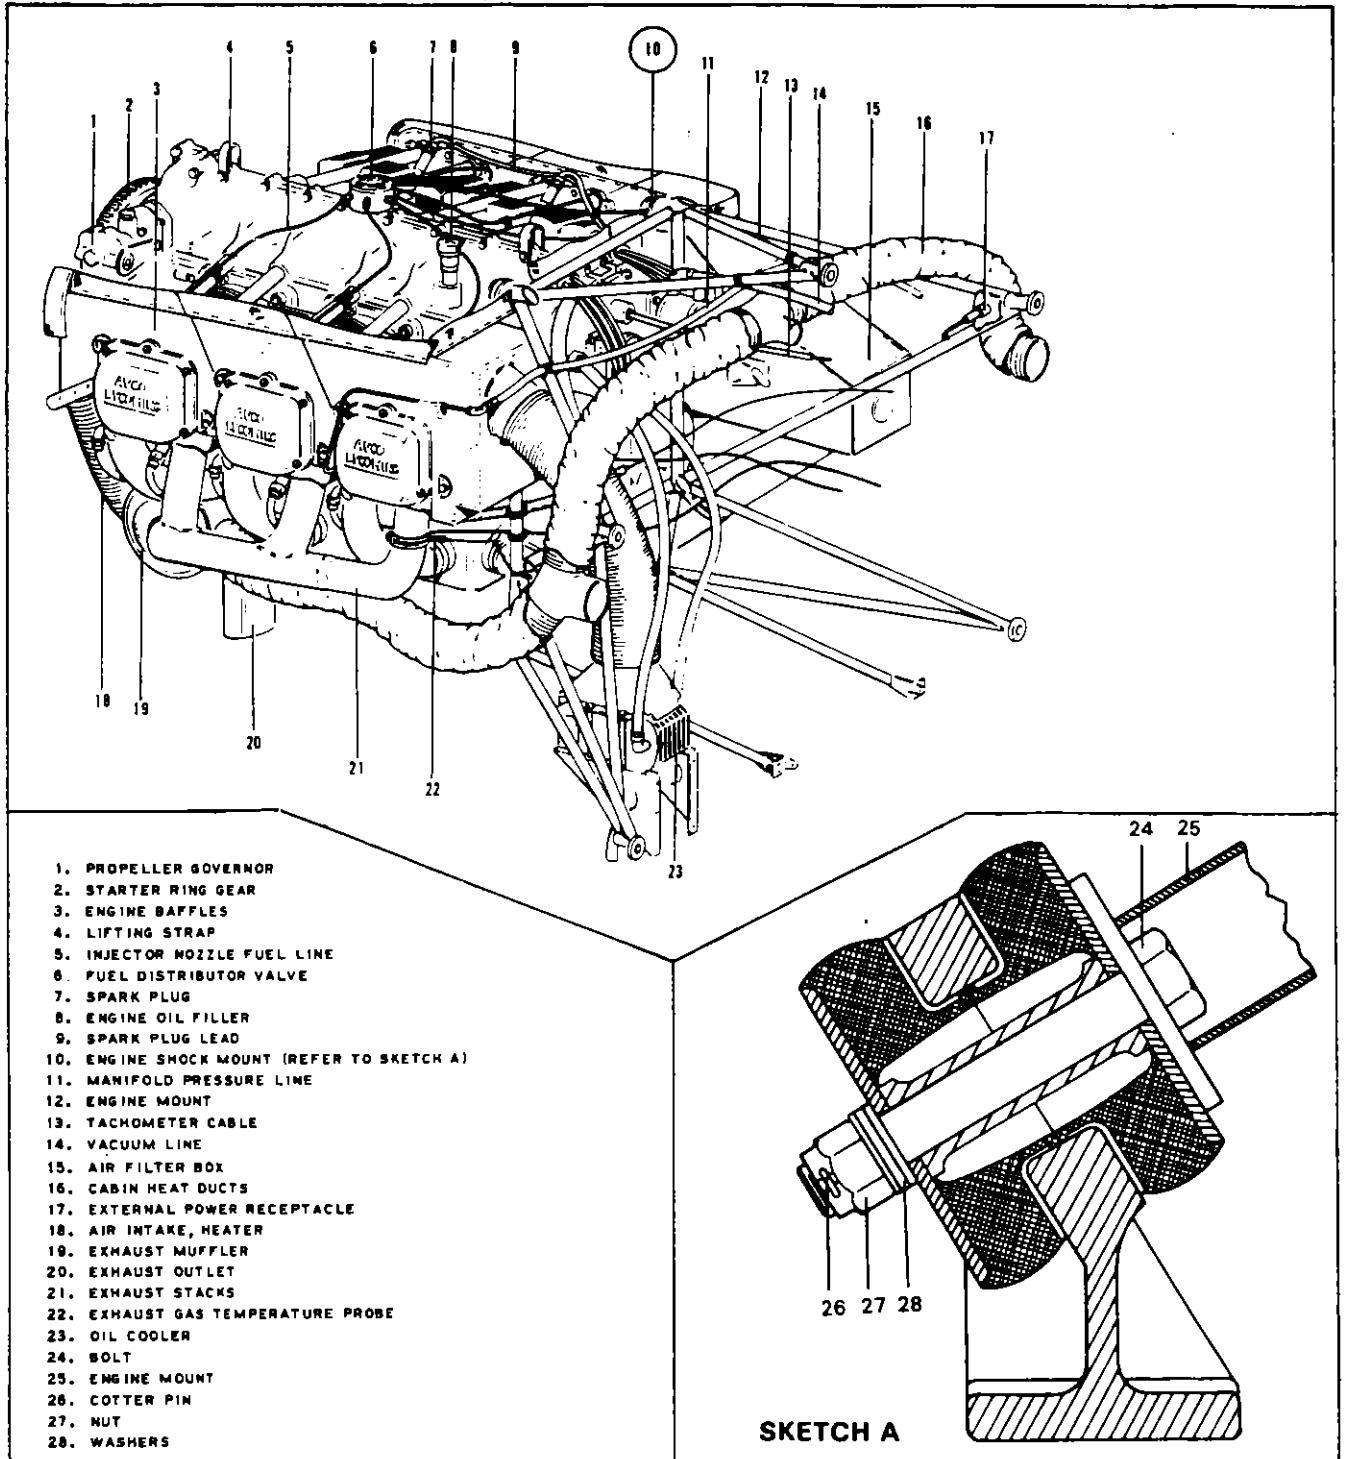

Figure 7A-9. Engine Installation PA-24-260 Serial Nos. 24-4783 and 24-4804 and up
**7A-34 Engine Shock Mounts.** Replacement of engine shock mounts. Refer to Figures 7A-7, 7A-8 and 7A-9 for the proper arrangement of engine shock mount assemblies. The top shocks are assembled so the silver colored shock is aft and the gold colored shock is forward. The lower shock mounts are installed opposite of the top shock mounts. On airplanes with Serial Numbers 24-4783 and 24-4804 and up, place shock mount with P N J-3049-35 in the top aft position and shock mount with P N J-3049-34 in the top front position. Place the lower shock mounts opposite the top mounts. Torque shock mount bolts to 450 to 500 in. lbs. and safety.